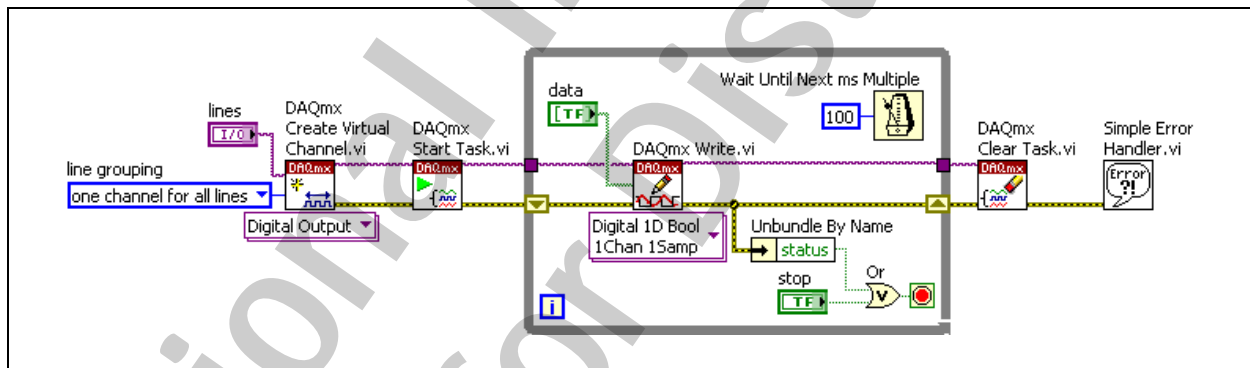

Figure 5-3. Digital Write VI Block Diagram
2. Modify the block diagram to generate digital data, as shown in Figure 5-3, using the following items: